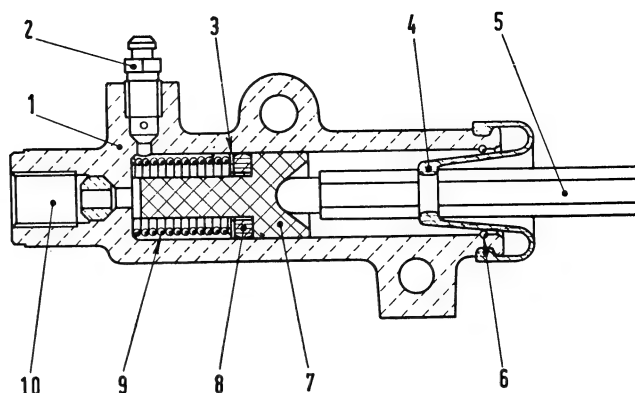

Fig. 112. - Clutch actuating cylinder (1600 S Cabriolet).
Pressure reaching fluid in actuating cylinder (1, fig. 112) pushes piston (7) and displaces rod (5) thus actuating the clutch throwout lever.
In actuating cylinder (1, fig. 112) seal ring (8), also when at rest, is axially compressed by cup (3) under